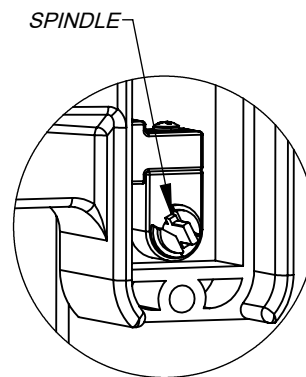
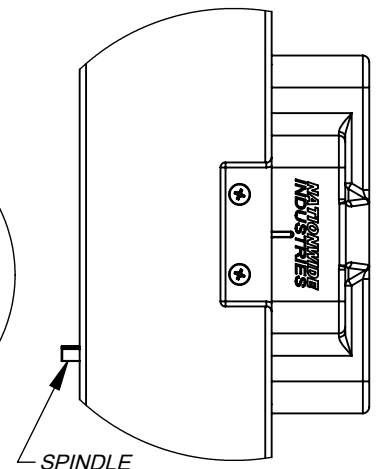
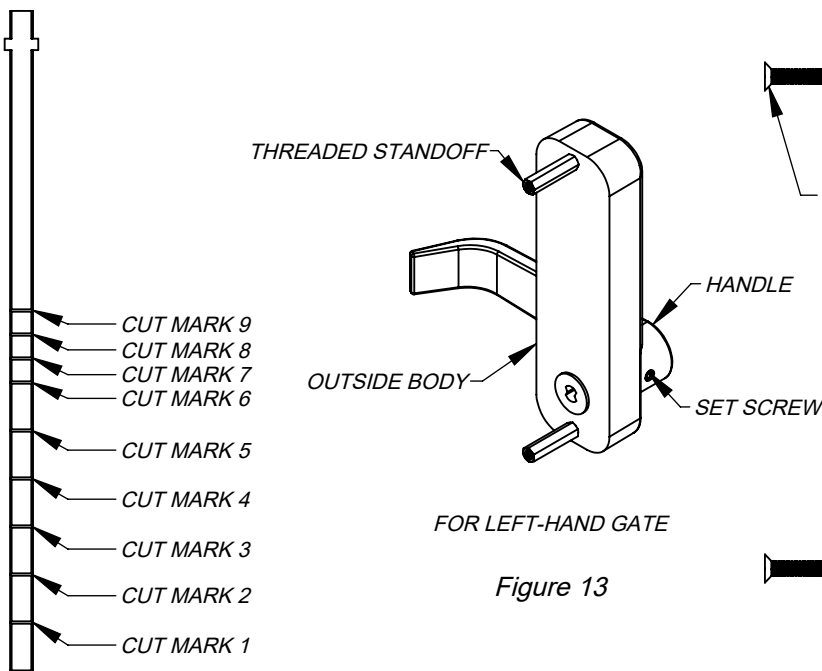

Figure 10
Figure 11
Figure 12
1) Fully insert the spindle into the spindle holes in the Latch Cam Assembly, Adapter Housing, and gate (Figure 10). The spindle should protrude from the inside surface of the gate by about 13/16" for the KYPD 1-sided version, or 5/16" for the KYPD 2-sided version (Figure 11). See Figure 12 and Table 1 to determine the correct cut mark on the spindle based on your gate frame size and KYPD type being used. **If the spindle sticks out too far, the latch will bind or seize. If the spindle does not protrude far enough, it will fail to engage with the inside handle.** Remove the spindle, cut it to the appropriate length, and reinsert it in the proper orientation.